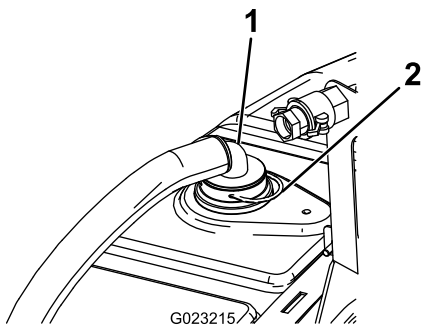

Figure 17
1. Install the hose end with the 90° fitting to the previously installed bulkhead using a retainer pin (Figure 17).